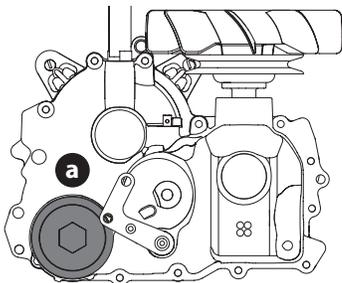

Figure 39
2. Place a suitable container under the oil filter cover (a) on the transmission. Remove the oil filter cover from the transmission to drain the oil (Figure 39). Remove and discard the O-ring.
4. Replace new filter and fit new O-ring onto filter cover (a) (Figure 39).